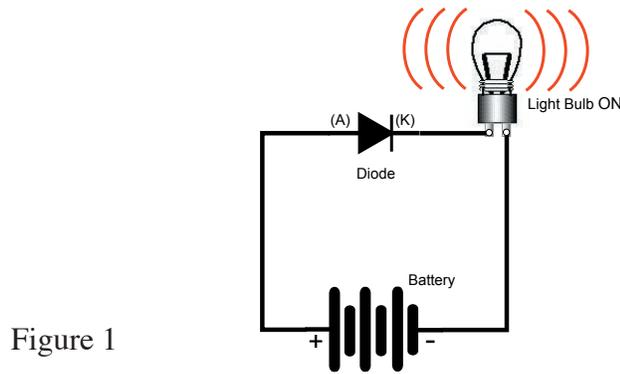

Figure 1
In Figure 1, the circuit consists of a diode, light bulb, and battery. The diode is situated so that the positive (+) terminal of the battery is connected to the Anode (A) side of the diode. This type of connection allows the current of the battery to flow through the diode. This connection is called Forward Biased. A diode that is connected in a Forward Biased way allows current to flow. Note also that